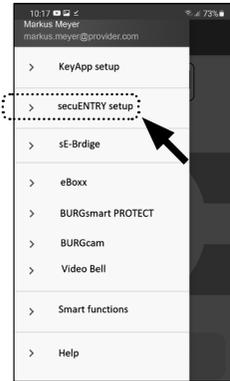

Fig. 68
- ② Tap on the menu item "secuENTRY setup" (Fig. 68).